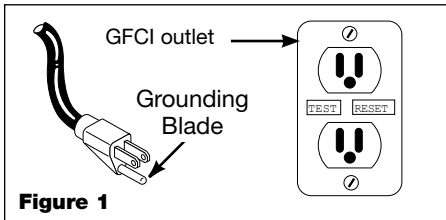

Figure 1
11. This equipment is only for use on 120 volt (single-phase) and is equipped with an approved 3-conductor cord and 3-prong, grounding-type plug as shown in Figure 1.
3-prong (GFCI), grounding-type receptacle (as shown in Figure 1).